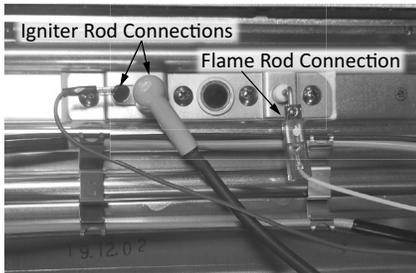

Figure 70: Igniter wires and flame rod wires.
- 4 Disconnect the two wires from the igniter rod connectors. See Figure 70.
6 Remove the 4 screws securing the igniter - flame rod assembly to the primary heat exchanger. Set these screws aside for re-installation. See Figure 70
8 Install the new igniter - flame rod assembly, reference Figure 70 for correct orientation. Secure with the four